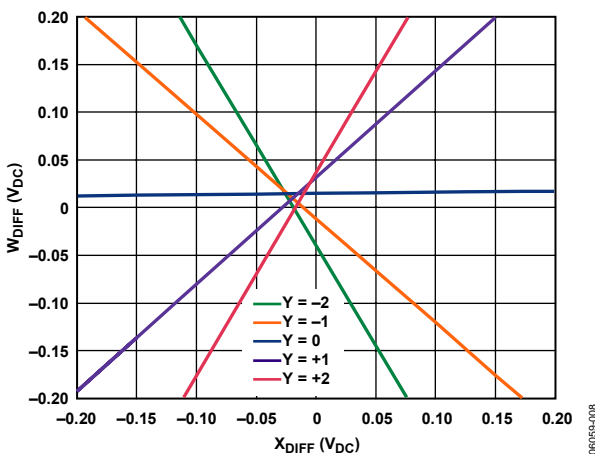

Figure 4. Magnified DC Cross Plots
The dc offset of the ADL5391 is approximately 20 mV but changes over temperature and has variation from part to part (see Figure 4). It is generally not of concern unless the ADL5391 is operated down to dc (close to the point  $X = 0$  V or  $Y = 0$  V), where 0 V is expected on the output ( $W = 0$  V). For example, when the ADL5391 is used as a VGA and a large amount of attenuation is needed, the maximum attenuation is determined by the input dc offset.
The dc component of the output is related to the square of both the offset (OFST) and the signal input amplitude (E). The offset can be found in Figure 4 and is approximately 20 mV. The second harmonic output grows with the square of the input amplitude, and the signal bleedthrough grows proportionally with the input signal. For smaller signal amplitudes, the signal bleedthrough can be higher than the second harmonic component. As the input amplitude increases, the second harmonic component grows much faster than the signal bleedthrough and becomes the dominant signal at the output. If the X and Y inputs are driven too hard, third harmonic components will also increase.